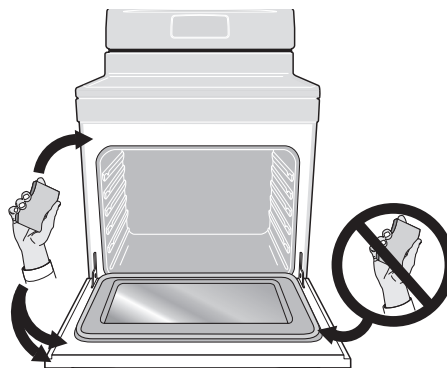

Figure 20: Do not clean the oven door gasket
11. Wipe oven cavity and bottom. Do not clean oven door gasket (See Figure 20).